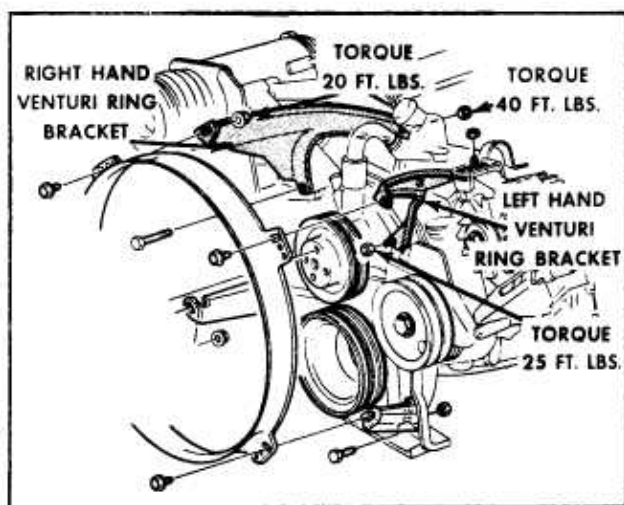

Figure 8-Upper Venturi Ring Brackets
4. Remove both upper venturi ring braces on vehicles with air conditioning as shown on Figure 8. Vehicles without air conditioning require removal of L.H. upper venturi ring only.
14. Install venturi ring brace(s). See Figure 8.